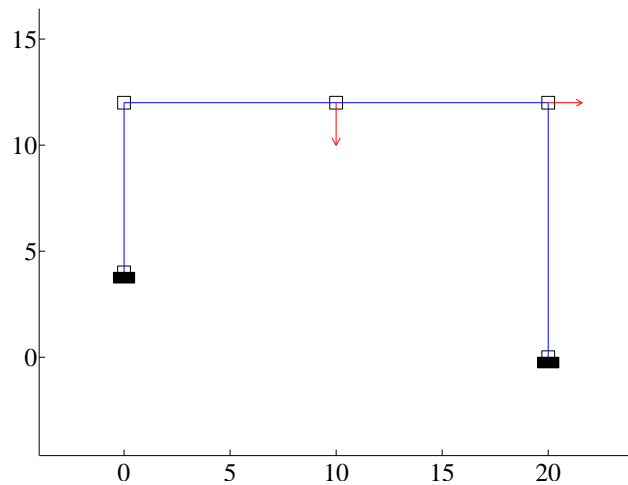

Figure 3: Irregular frame structure
2. Construct the data structure for the irregular frame structure shown in Figure 3. Then load, plot, and solve for the displacements and forces. The applied force at the middle node is $(0, -25, 0)$ and at the top right node is $(20, 0, 0)$.